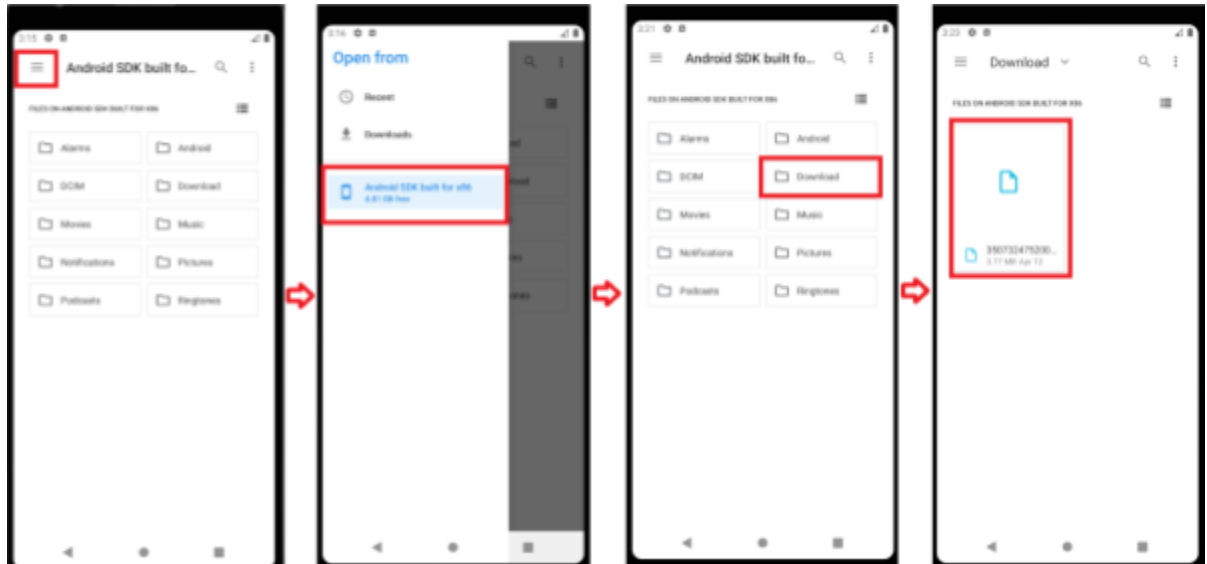

Figure 4
3. Select the navigation “stack” button in the upper left then select “Android SDK built for x86” and navigate to the Downloads folder. Double click the LAS file as shown in **Figure 4**.